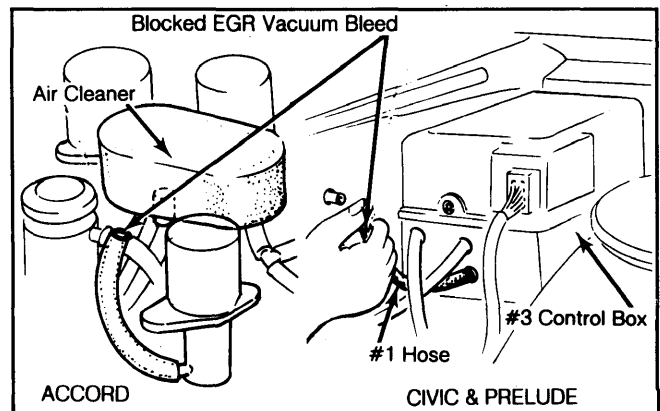

Fig. 1 Blocking EGR At Control Box
① - See Fig. 1.
② - In second gear or "2".